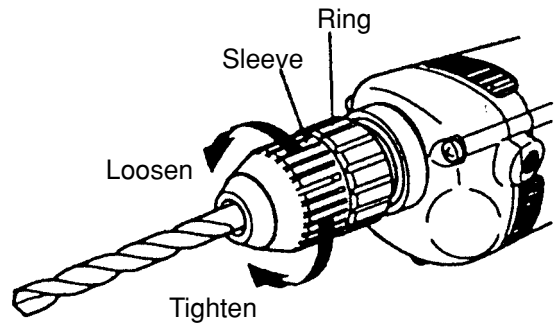

Fig. 1
(1) Keyless chuck
① Mounting of the bit
- Firmly grasp the ring and turn the sleeve in the clockwise direction. Tighten securely. (Fig. 1)
② Dismounting of the bit
- To remove the bit, firmly grasp the ring and turn the sleeve in the counterclockwise direction. (Fig. 1)